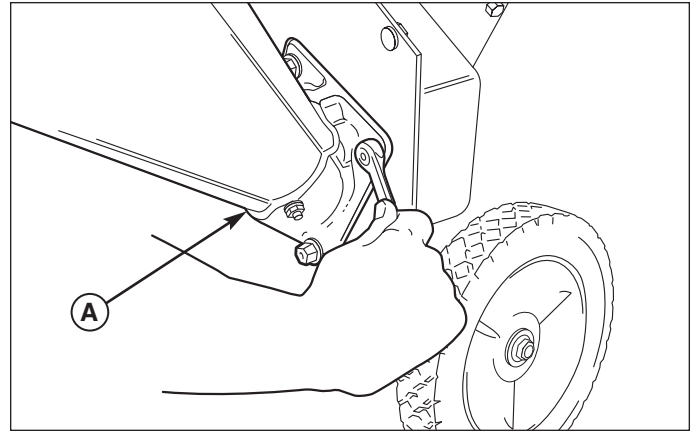

Figure 8. Inspect Chipper Knives
2. See Figure 8. Remove the nuts securing the chipper cone to the front of the chipper. Remove the chipper cone (A) to access the knives.